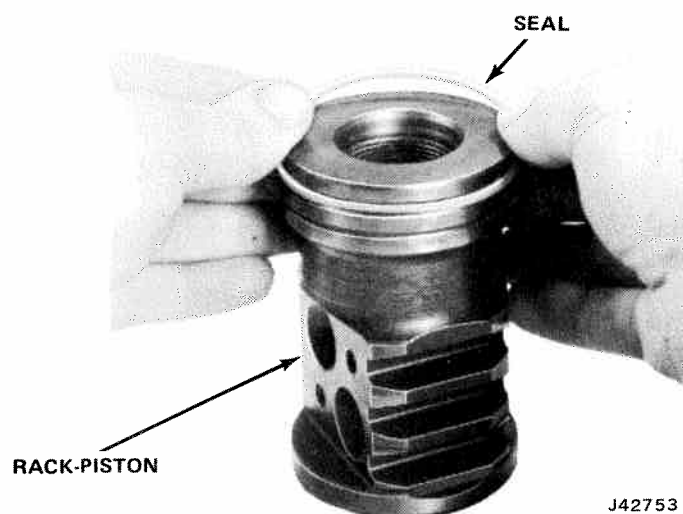

Fig. 11-72 Assembling Seal on Rack-Piston Nut
(1) Lubricate a new back-up O-ring seal with automatic transmission fluid. Assemble the seal in the piston ring groove on rack-piston nut (fig. 11-72).
(2) Install new piston ring in the ring groove over the O-ring seal by carefully slipping the ring over the rack-piston.